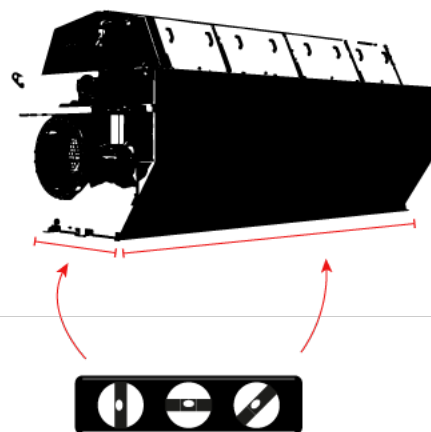

Figure 4.3 Filter installation.
- ▶ The filter must be level in both directions (see Figure 4.3).